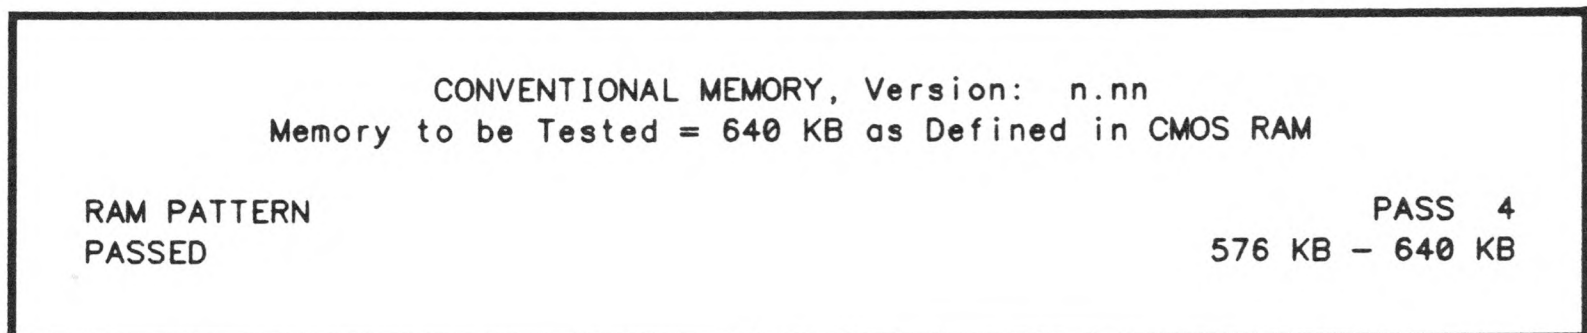

Figure 3-1. Conventional Memory Test Results Screen
Step 2 Type 1 (or 01) and then <Enter>. The test will run in the order shown below. You will see a series of screens similar to Figure 3-1.